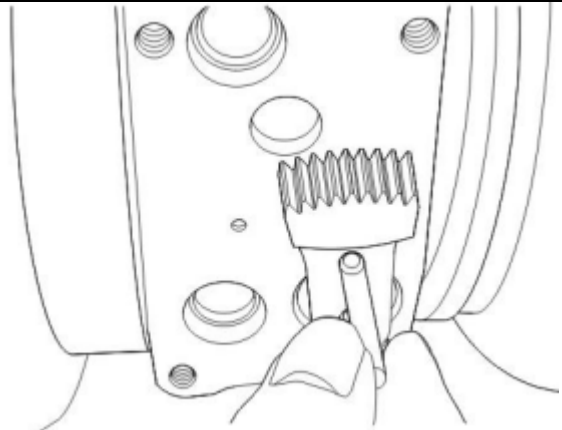

FIGURE 13
17. Remove the alignment pin without disturbing the position of the sector gear. The gear must not be moved from this position (FIGURE 13).